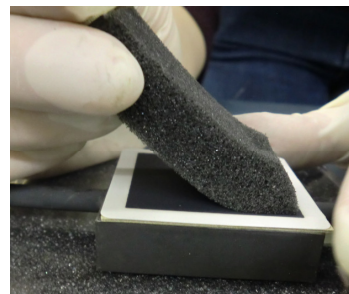

Figure 14
7. Lightly holding the cell in place, evenly apply approximately 0.75 grams of LSM ink to the cathode active area (Figure 14).